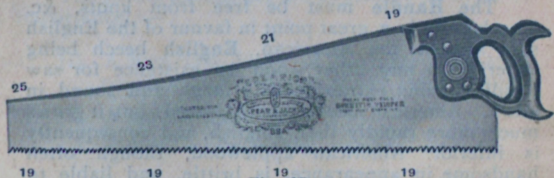

Fig. 15.
- (2) To test taper grinding, try with a wire gauge (borrowed from tool dealer) to find if well and regularly tapered from point to handle along the back, and of same gauge throughout along the teeth. Fig. 15 indicates how a medium thick plate should show with the gauge.